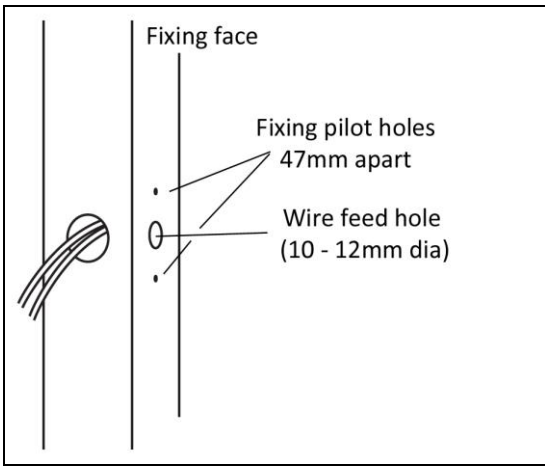

Fig 4
1. On the fixing face, drill two pilot holes 2.5mm , 47mm apart vertically, equally spaced above and below pre-drilled wire feed hole (which will have power supply leads installed) Fig 4